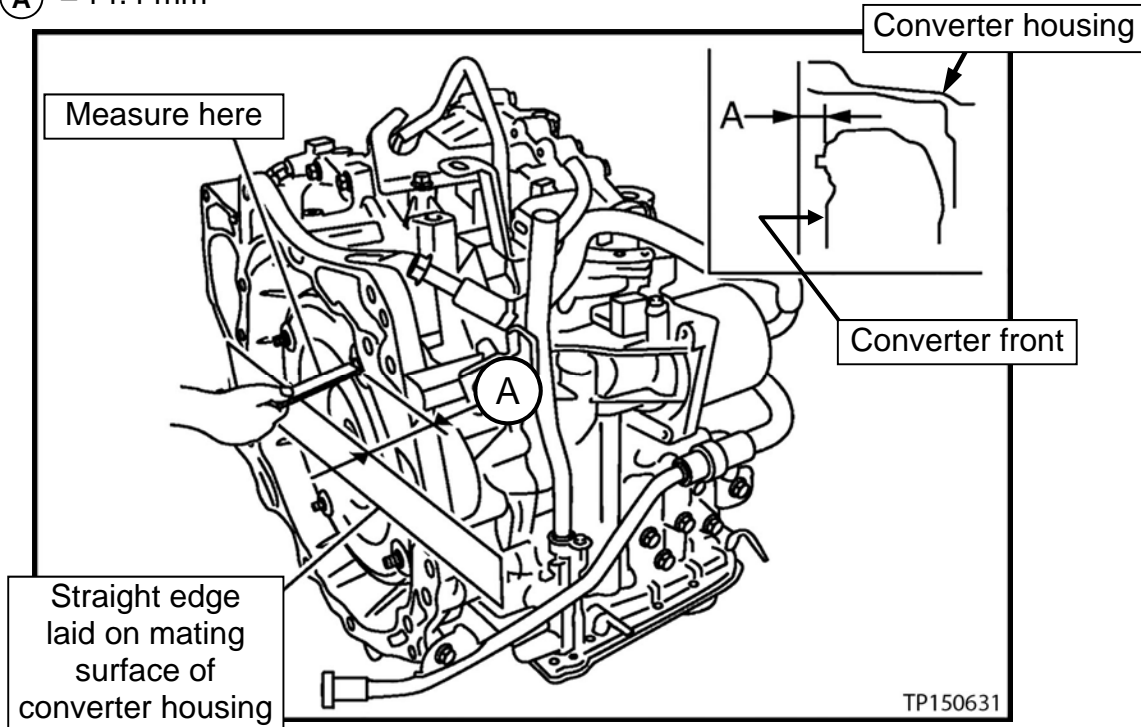

Figure 185
- Verify the torque converter is installed at the proper depth (see Figure 185).